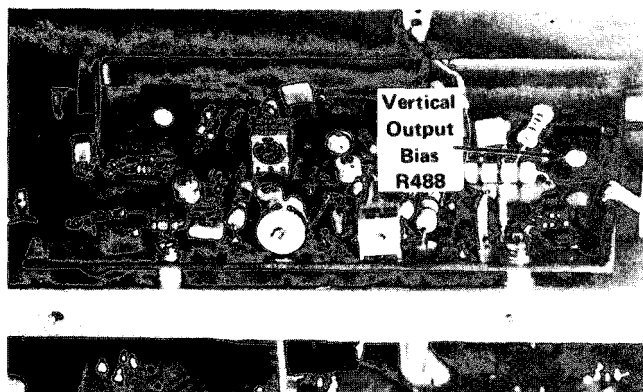

Fig. 5-5. Location of Vertical Output Bias adjustment.
- c. ADJUST—Vertical Output Bias adjustment, R488 (see Fig. 5-5) for maximum deflection of the signal.